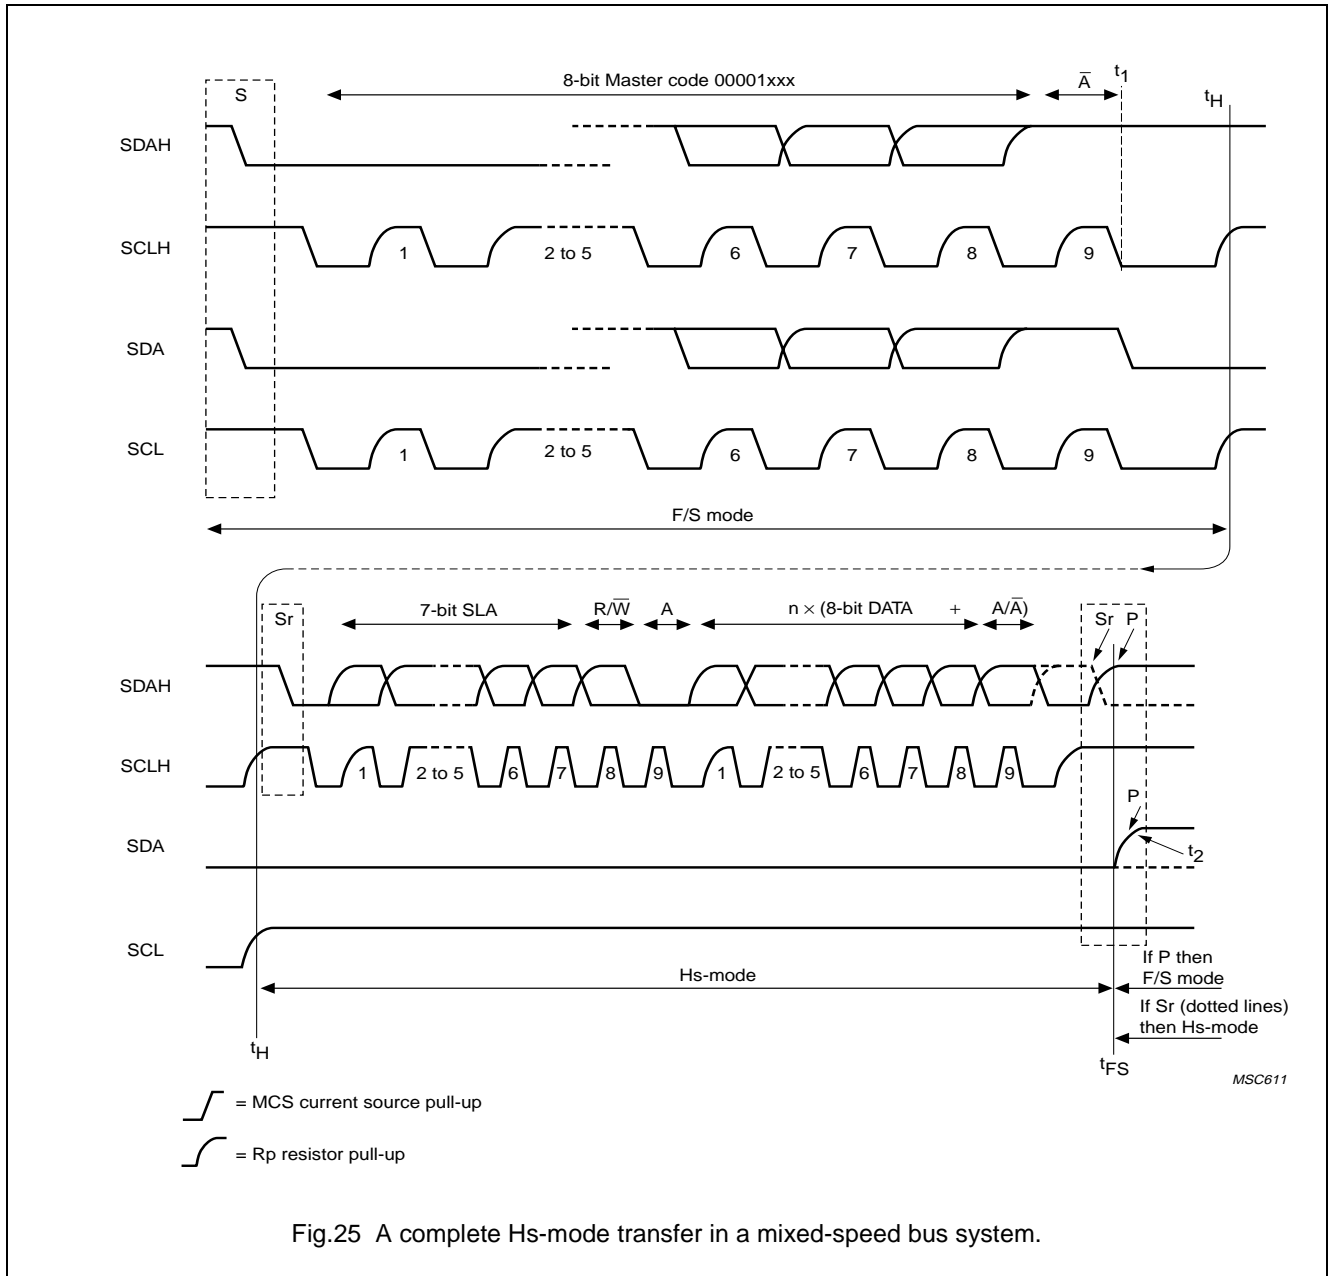

Fig.25 A complete Hs-mode transfer in a mixed-speed bus system.
Figure 25 shows the timing diagram of a complete Hs-mode transfer, which is invoked by a START condition, a master code, and a not-acknowledge \bar{A} (at F/S-mode speed). Although this timing diagram is split in two parts, it should be viewed as one timing diagram where time point t_H is a common point for both parts.
1. Between t_1 and t_H (see Fig.25), transistor TR1 opens to separate the SDAH and SDA lines, after which transistor TR3 closes to pull-down the SDA line to V_{SS} .
2. When both SCLH and SCL become HIGH (t_H in Fig.25), transistor TR2 opens to separate the SCLH and SCL lines. TR2 must be opened before SCLH goes LOW after Sr.
Hs-mode finishes with a STOP condition and brings the bus system back into the F/S-mode. The active master disables its current-source MCS when the STOP condition (P) at SDAH is detected (t_{FS} in Fig.25). The bridge also recognizes this STOP condition and takes the following actions:
2. When SDA reaches a HIGH (t_2 in Fig.25) transistor TR1 closes to connect SDAH with SDA. (Note: interconnections are made when all lines are HIGH, thus preventing spikes on the bus lines). TR1 and TR2 must be closed within the minimum bus free time according to the Fast-mode specification (see t_{BUF} in Table 5).
It can be seen from Fig.25 that the actions of the bridge at t_1 , t_H and t_{FS} must be so fast that it does not affect the SDAH and SCLH lines. Furthermore the bridge must meet the related timing requirements of the Fast-mode specification for the SDA and SCL lines.